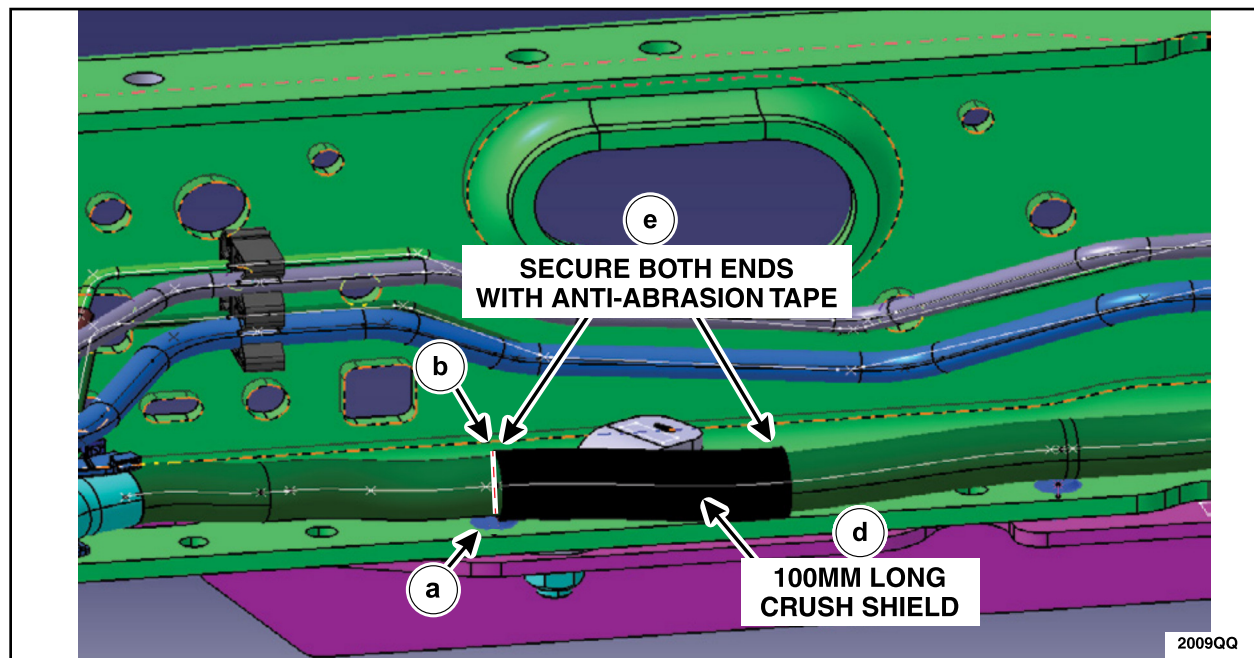

FIGURE 36
- Remove the tie strap push pin (a) from the hole indicated in Figure 36.
- Install the provided crush shield (d) on the harness with the rear edge of the shield aligning the mark made in second bullet point (above). See Figure 36.